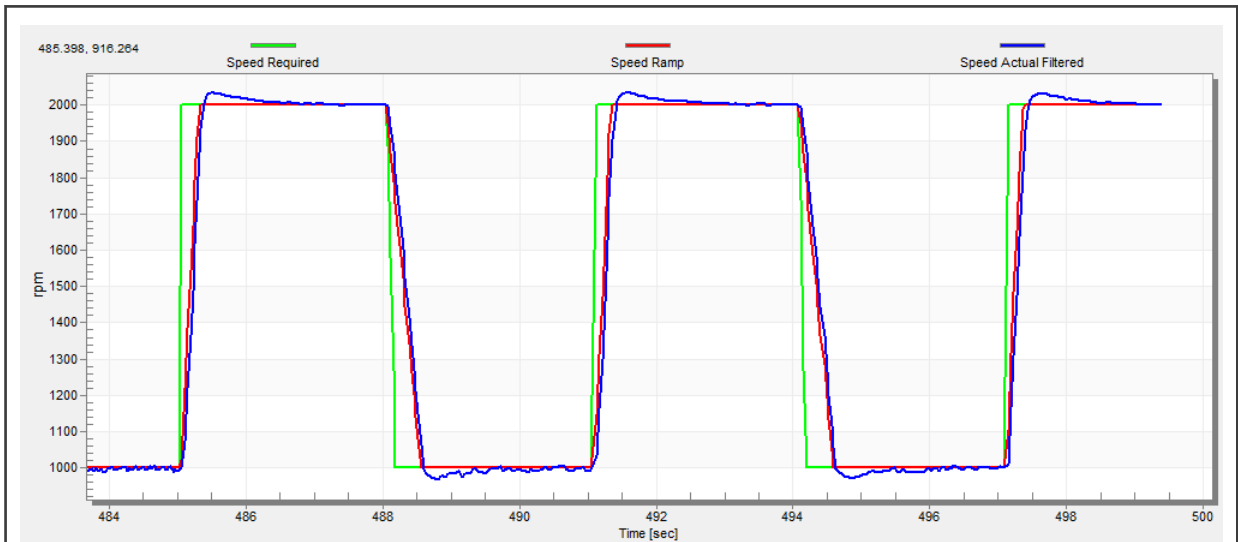

Figure 33. Speed controller response—speed loop response with a small overshoot
- The speed loop response has a small overshoot and the “Speed Actual Filtered” settling time is sufficient. Such response can be considered optimal (see Figure 33).